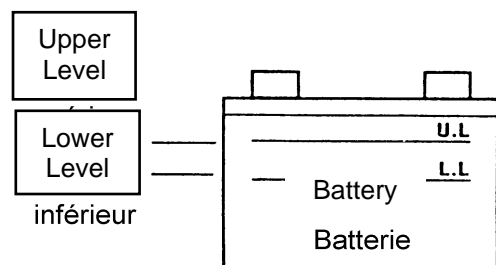

Figure 20
**Electrolyte battery level (Figure 20)**